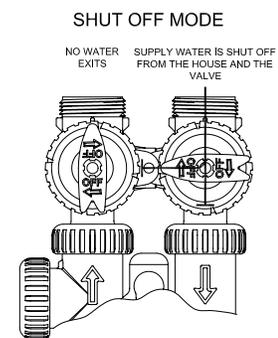

figure 4
4. Shut Off Position: The inlet handle points to the center of the bypass valve and the outlet handle points in the direction of flow. The water is shut off to the building plumbing system. The filter will depressurize upon opening a tap in the building. If water is available on the outlet side of the filter it is an indication of water bypassing around the system (i.e. a plumbing connection somewhere in the building bypasses the system). (see figure 4)